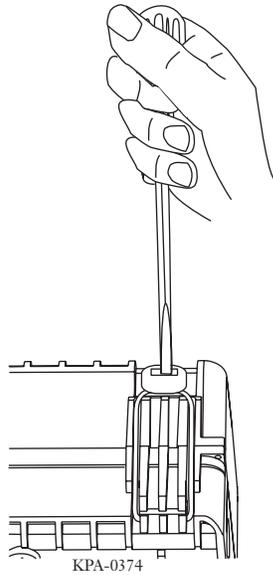

Figure 22 — Open Terminal Cover
**Step 2** Pry open as shown in Figure 22.